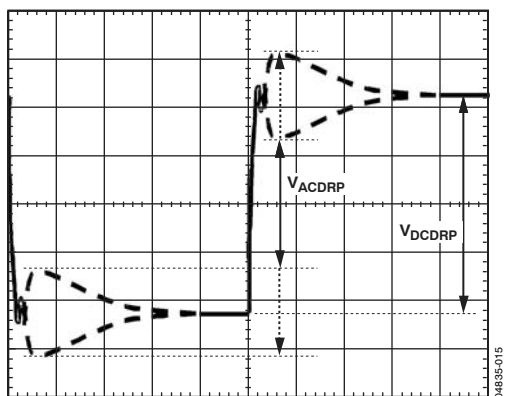

Figure 15. AC Loadline Waveform
14. Measure the output waveform (if not visible, use dc offset on scope to view). Try to use a vertical scale of 100 mV/div or finer. This waveform should look similar to Figure 15.